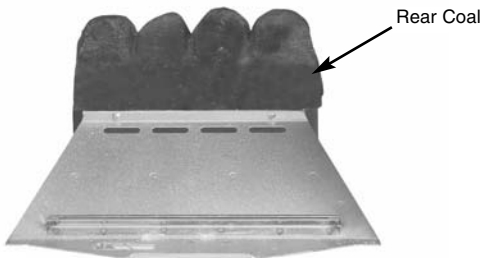

Fig. 54
1. Place the rear coal on the rear coal retainer ledge in a central position (Fig. 54).